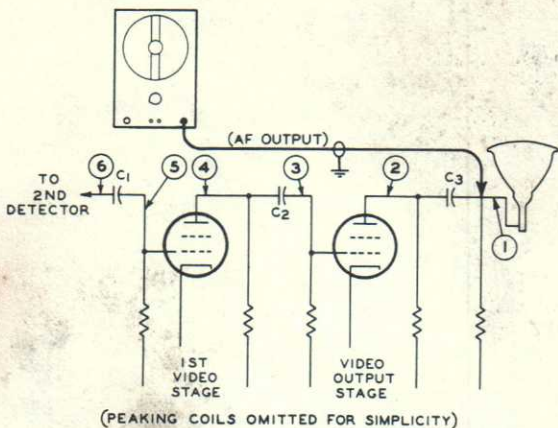

Figure 4. Setup for locating a dead stage in the video amplifier
3. Check the video output stage by applying the full audio output from the WR-50B to the grid circuit, shown as point "3" in Figure 4. The bars should become noticeably darker, indicating that the stage is functioning and providing amplification. If necessary, reduce the audio output from the WR-50B to prevent overloading of the amplifier.